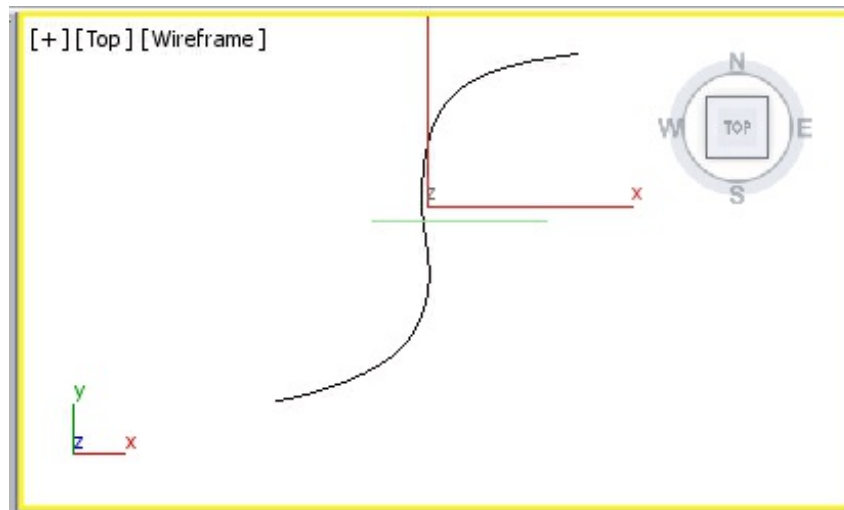

Figure 14-20 A line created for the tunnel
7. Create a line in the Top viewport, as shown in Figure 14-20. It is automatically named as *Line001*.